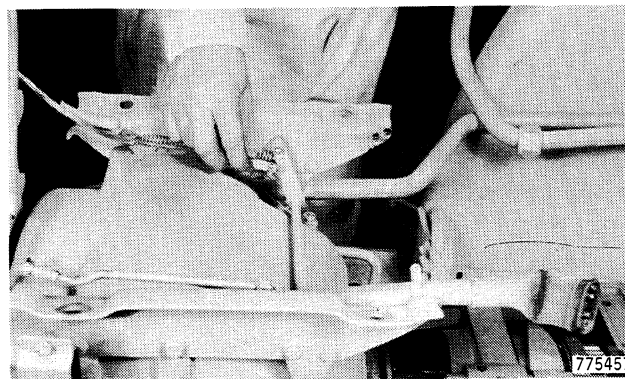

Figure 40
42. Disconnect the throttle cable, Figure 40.